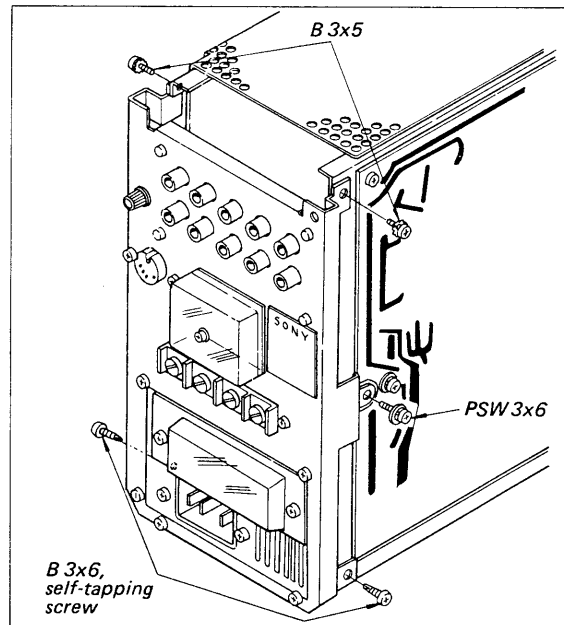

Fig. 2-10. Rear panel removal
- Remove the five screws shown in Fig. 2-10.